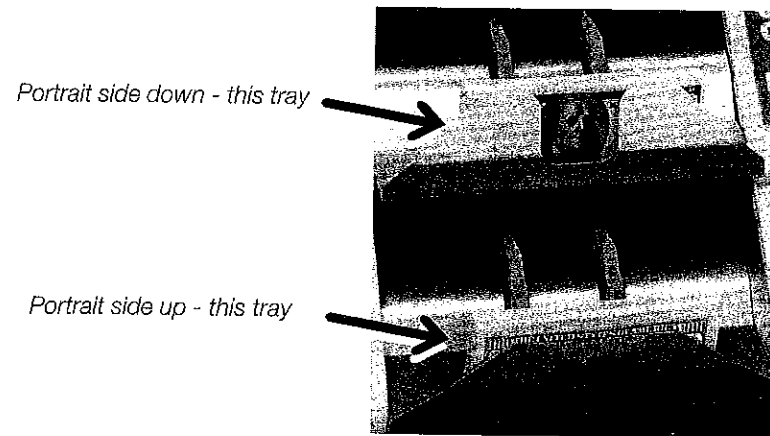

Figure 7: Facing Stacker Output Trays
- Place notes on the feed tray. Counting begins with face up (portrait side up) notes feeding to the bottom tray, face down notes off-sorting to the top tray. See Figure 7.